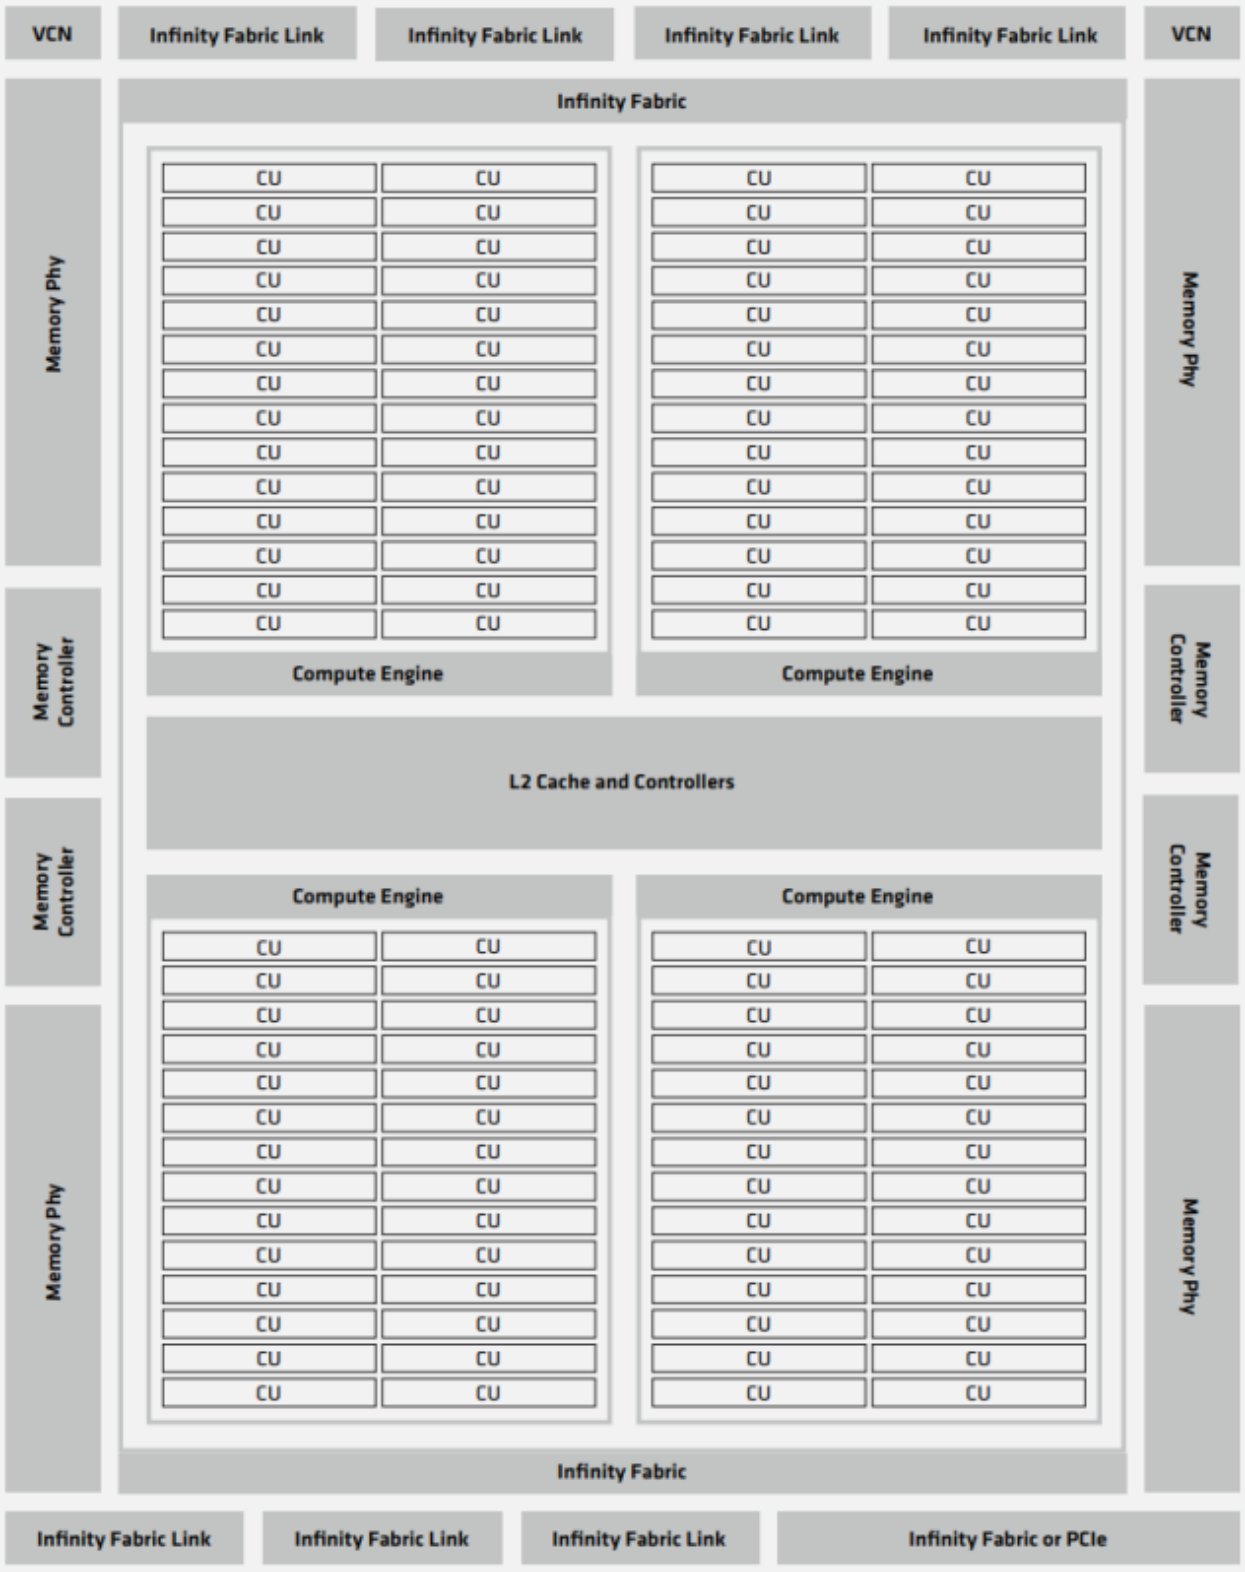

Fig. 30.1: Figure 1: Structure of a single GCD in the AMD Instinct MI250 accelerator.
Fig. 30.1 shows the components of a single Graphics Compute Die (GCD ) of the CDNA 2 architecture. On the top and the bottom are AMD Infinity Fabric™ interfaces and their physical links that are used to connect the GPU die to the other system-level components of the node (see also Section 2.2). Both interfaces can drive four AMD Infinity Fabric links. One of the AMD Infinity Fabric links of the controller at the bottom can be configured as a PCIe link. Each of the AMD Infinity Fabric links between GPUs can run at up to 25 GT/sec, which correlates to a peak transfer bandwidth of 50 GB/sec for a 16-wide link ( two bytes per transaction). Section 2.2 has more details on the number of AMD Infinity Fabric links and the resulting transfer rates between the system-level components.
The execution units of the GPU are depicted in Fig. 30.1 as Compute Units (CU). The MI250 GCD has 104 active CUs. Each compute unit is further subdivided into four SIMD units that process SIMD instructions of 16 data elements per instruction (for the FP64 data type). This enables the CU to process 64 work items (a so-called “wavefront”) at a peak clock frequency of 1.7 GHz. Therefore, the theoretical maximum FP64 peak performance per GCD is 45.3 TFLOPS for vector instructions. The MI250 compute units also provide specialized execution units (also called matrix cores), which are geared toward executing matrix operations like matrix-matrix multiplications. For FP64, the peak performance of these units amounts to 90.5 TFLOPS.